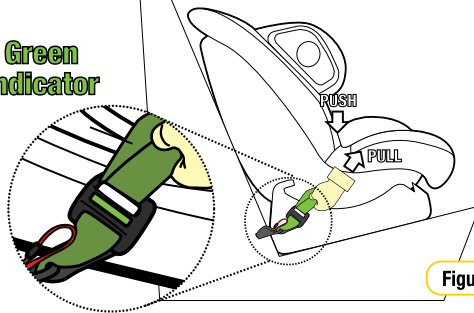

Figure 4
Step 3: Push down on the restraint (with knee or hand). Remove all slack from the LAC straps by pulling the adjuster strap firmly. The **GREEN** indication is activated (refer Figure 4).